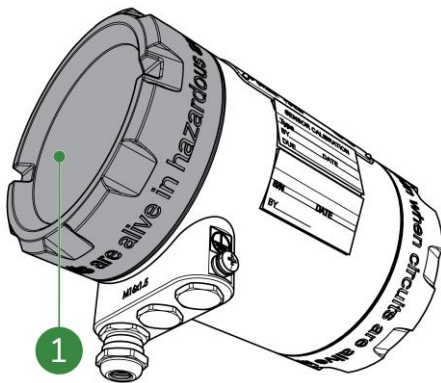

Figure 5-16: Back lid
1. Open the back lid (Figure 5-16, pos. 1).
6. Close the back lid (Figure 5-16, pos. 1).